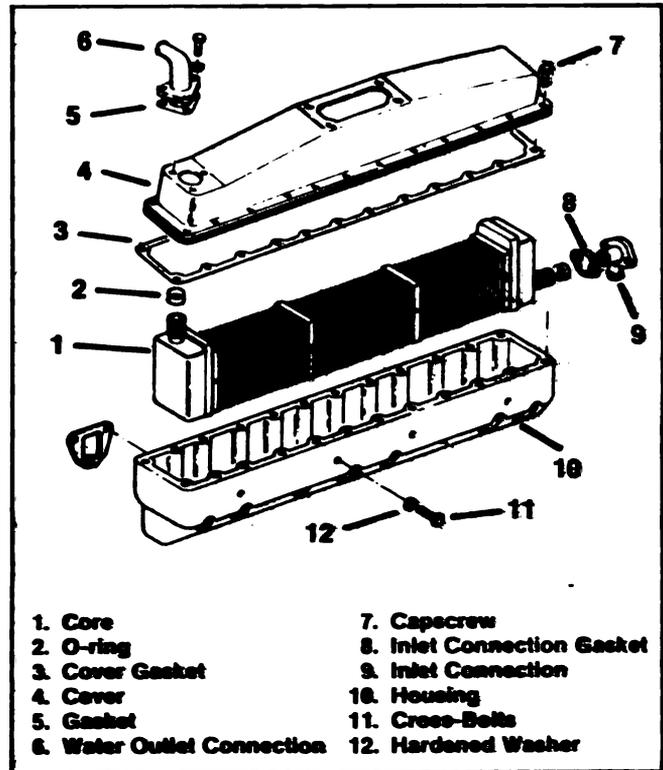

Fig. 10-2 (N10099). Cross-Bolt Design Aftercooler — Exploded View.
1. Put the aftercooler housing (10, Fig. 10-2) on a workbench. Hold the housing so that it will be in the same position as it is on the engine.
2. Apply clean lubricating oil to the new O-rings (2). Install the O-rings to the inlet and outlet fittings of the element (1). Install the element into the housing.